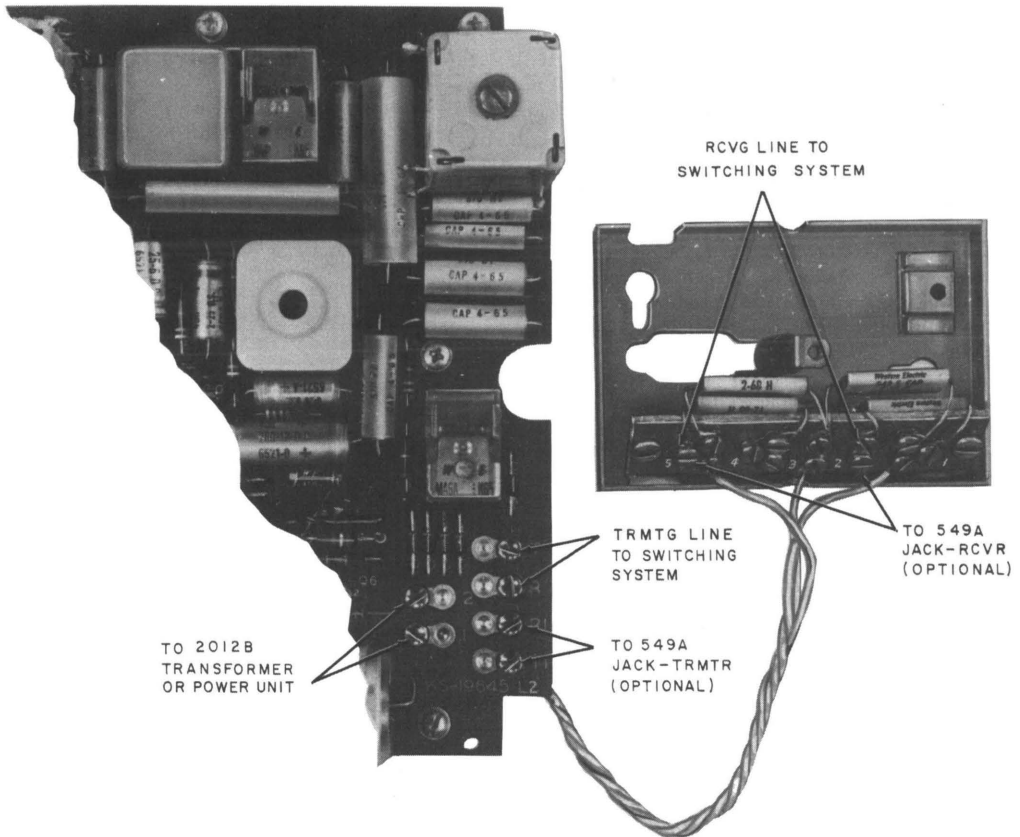

Fig. 3—KS-19645, List 4 Recorder Connector Modified For 4-Wire Use
**2.04 4-Wire Service (Fig. 3):** KS-19645, List 4 recorder connector, modified for 4-wire use (4W), provides 1400-Hz warning beeps on 4-wire telephone lines when 2-way conversations are being recorded by CP voice recorders.
- Central Office (CO), Centrex, or PBX station lines